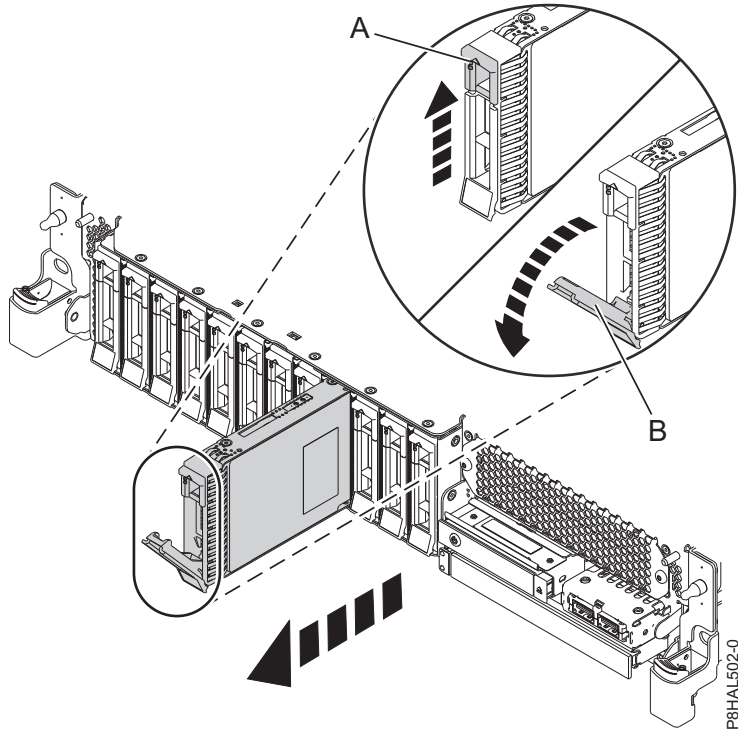
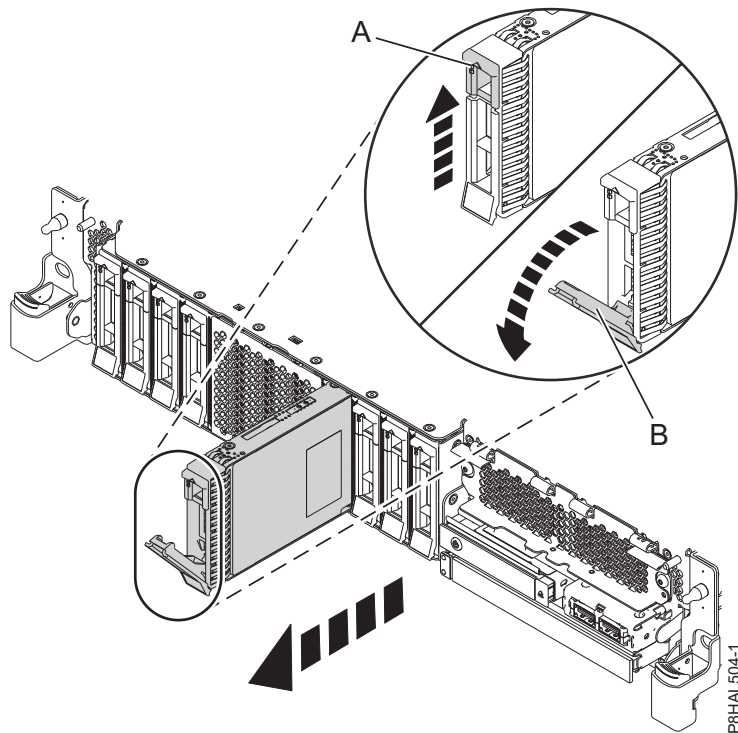

Figure 89. Removing a disk drive from a base function system
Figure 90. Removing a disk drive from an expanded function system
3. When the identify LED flashes, unlock the drive handle (B) by pressing the handle latch (A) and pulling it out toward you, as shown in Figure 89 on page 89 and Figure 90 on page 89. If the handle is not all the way out, the solid-state drive cannot slide out of the system.